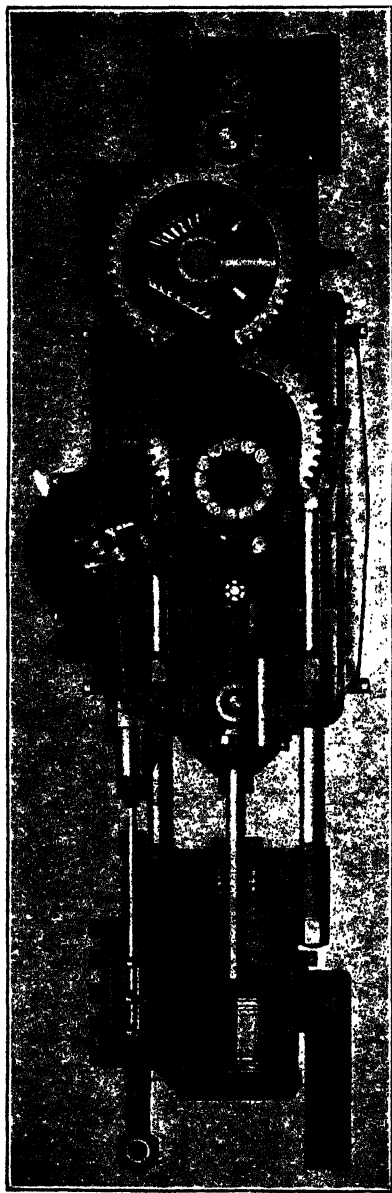

Fig. 28. Section of Doble Engine
**Doble.** The Doble engine, shown in full length section in Fig. 28, is made up of two cylinders of the same size. It is of the simple-expansion double-acting type, and the interesting feature is that the uni-flow principle is employed. The cylinder bore is 5 inches and the stroke is 4 inches.